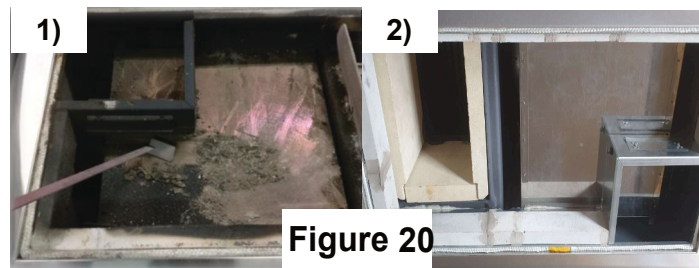

Figure 20
While **cleaning the top side of the cooker** (Figure 20), it is necessary to remove the cooking plate (1) and thoroughly clean the soot from the boiler, around the oven and flue gas deflector, including the chimney outlet opening.